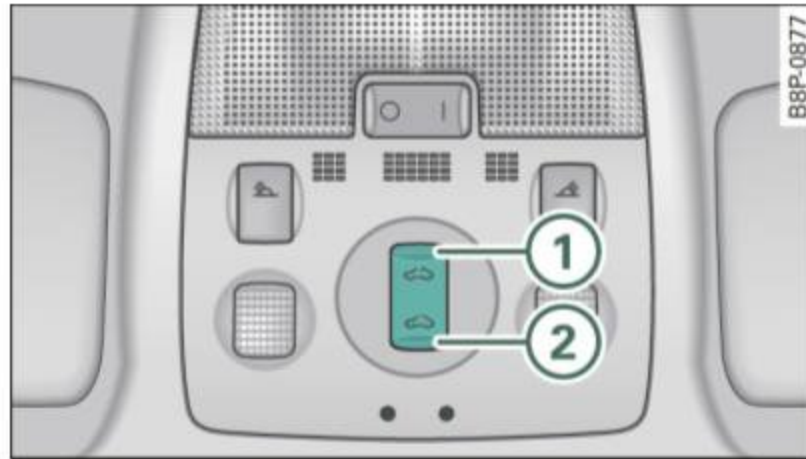

Fig. 59 Section of the roof liner Toggle switch for the open sky system
The open sky system is operated with the toggle switch ⇒ page 73, fig. 59 when the ignition is on. ►
- Tap the switch ① ⇒ fig. 59 briefly, and the roof lifts automatically (pop-up position).
- Tap the switch ① ⇒ fig. 59 briefly, and the roof moves to the **lift position**.
- Tap the switch ① briefly a second time, and the roof moves to the **low wind noise comfort position**.
- Press the switch ① until the roof is **fully** open. In this position increased wind noise may occur.
- Press the switch ① ⇒ fig. 59, starting from the “lift position” until the roof has reached the desired position.
- Press the switch ② ⇒ fig. 59 until the roof is completely closed ⇒ ⚠.
- Press the switch ② ⇒ fig. 59 until the roof has reached the desired position ⇒ ⚠. If the roof is almost closed and you interrupt the operation, the roof opens automatically to a minimum setting; this is the smallest possible opening that can be set.